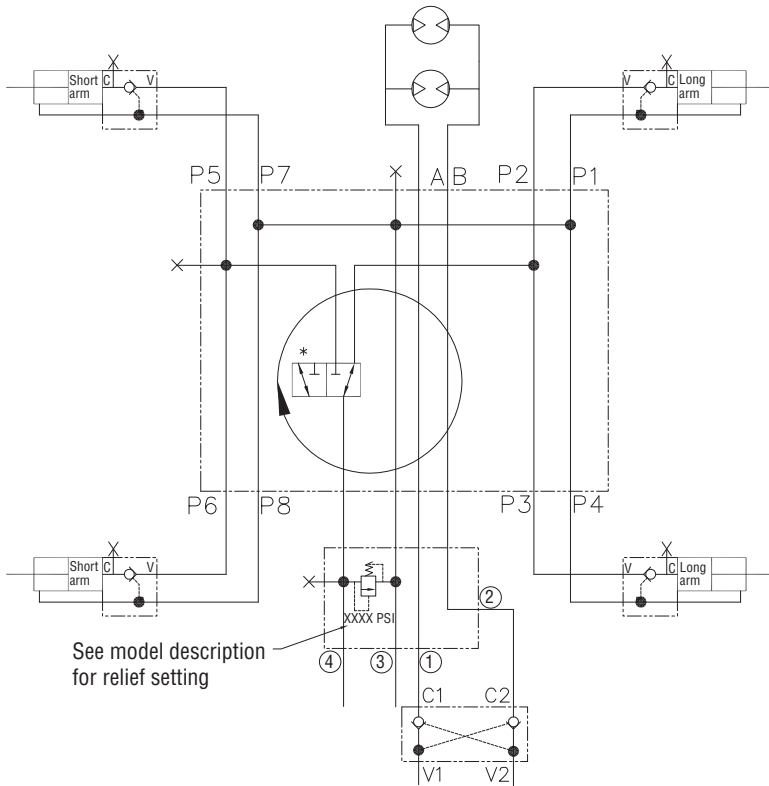

Figure 5-42, Hydraulics
2. Disconnect hydraulic hoses from the truck at the attachment's swivel assembly ports 1, 2, 3 and 4 (Figure 5-42). Cap hose ends with metal plugs and caps. Tag hoses for reassembly.